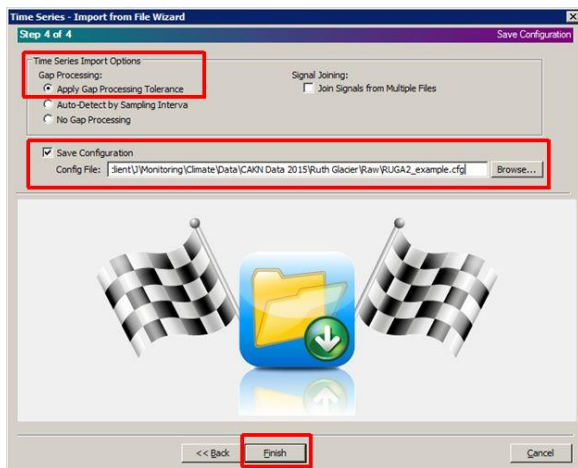

Figure SOP 11-13. Import from File Wizard, step 4.
- d. Complete step 4 of the wizard (Figure SOP 11-13). Save the configuration file. The configuration file can be selected and used (Figure SOP 11-6) for all raw data files with identical column structure. Confirm that gap processing will be applied, and click Finish.